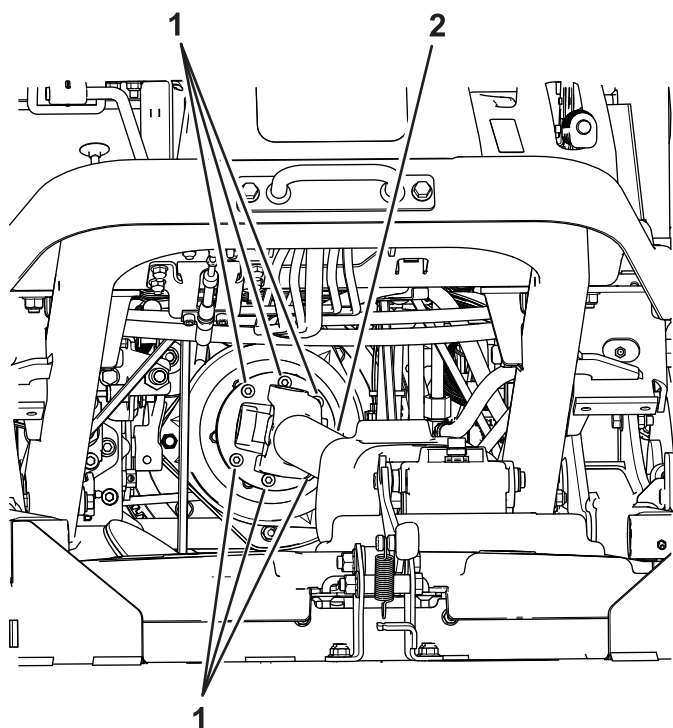

Figure 2
3. Remove the 6 bolts holding the driveshaft to the clutch (Figure 2). Discard the hardware.
5. Install the new driveshaft to the clutch with 6 hex-socket head bolts (M8-1.25 x 30 mm); refer to Figure 2.